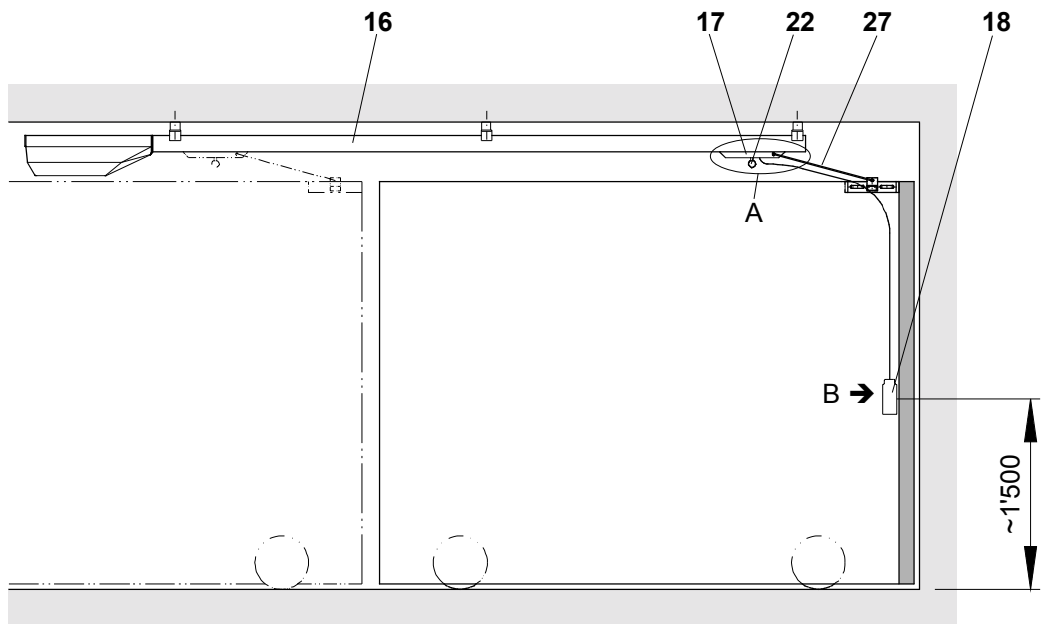
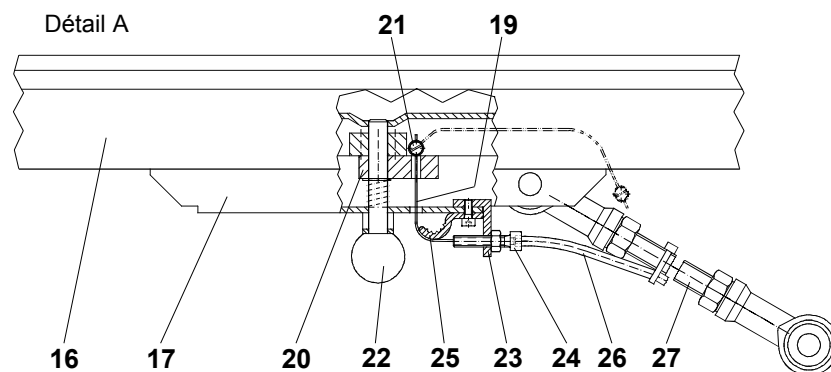

Fig. 8
Fig. 9
- This option is used in cases where the red button (22) on the sliding carriage (17) in the aluminium guideway profile (16) is not easily accessible (e.g. if it is too high). Fig. 8
- Determine the position of the actuation lever (18) so that:
- Screw the actuation lever (18) onto the door, using the included fixing material. Fig. 8
- Thread the steel cable (19) through the holes drilled into the sliding carriage (17) and into the guide piece (20). Seize the cable end and mount the screw nipple (21). Fig. 9
- Withdraw the steel cable (19) until the red button (22) moves.
- Mount the angle (23) using the drilled screw (24) and the cable guide (25).
- Lay out the Bowden cable sheathing (26) along the drawbar (27) in a direct line towards the drilled screw (24) of the actuation lever (18), without bending it. Fig. 8, Fig. 10
- Push the steel cable (19) through the Bowden cable sheathing (26) up to the drilled screw (24) and the axle (28).